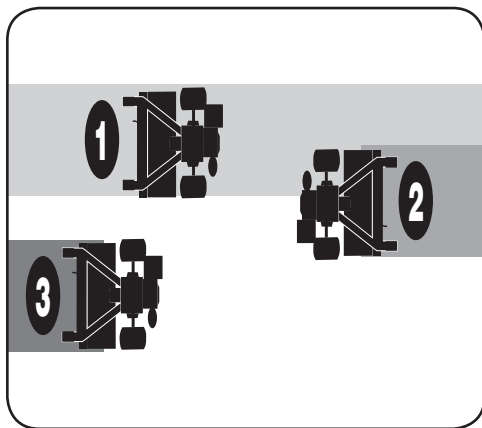

Figure 4-7
- If the garden size will not permit lengthwise and then crosswise tilling, then overlap the first pass by one-half a tiller width, followed by successive passes at one-quarter width. See Figure 4-7.